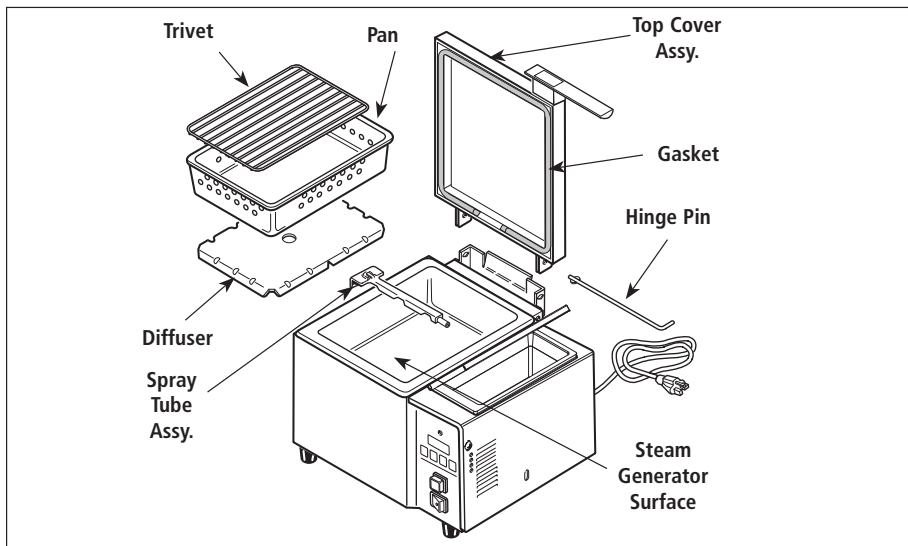

Figure 6. Deluxe Food Warmer Components (DFW-150 Shown)
**NOTE: Pressing and holding the OPERATE button for longer than 1 second at a time, and/or too often (before 20 seconds), will flood out the Generator surface (Figure 6) and result in poor steaming.**
3. Remove the trivet and pan (Figure 6).
5. Wipe down the top cover, gasket, and the entire exterior of the unit (Figure 6) with a clean, hot, damp cloth (not dripping wet) and wipe dry.
3. Remove the spray tube (Figure 6) by lifting the loose end and pulling it out of the generator hole.
6. Use a scraper or spatula to remove the excessive calcium/mineral buildup from the generator surface (Figure 6).